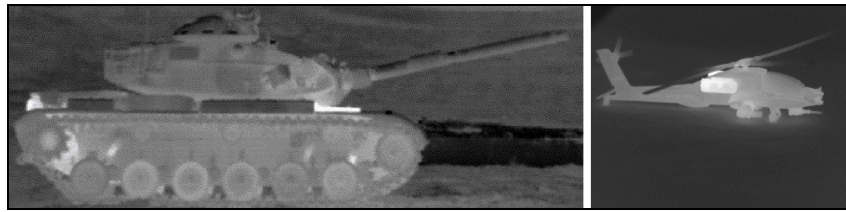

Figure 11 – Tank, Apache with localized hot spots
2. Passively heated objects (buildings, bridges, roads, non-exercising vehicles, etc.) radiate energy according to their physical properties and the amount of energy they receive (look again at the buildings in figure 10). These objects tend to have a more even heat distribution than objects with self-heating properties, such as vehicles with engines. The latter can emit additional heat that causes the object to look distorted (but more easily seen) when viewed with IR sensors. In some cases, these “hot spots” are very localized (figure 11).